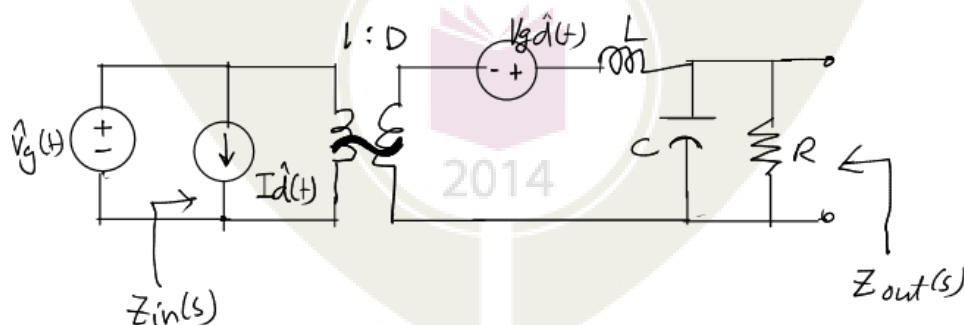

Figure 2.
- 15 (a) Figure 2 shows the small-signal model of a buck converter. Evaluate the output-to-control transfer function, $G_{vd}(s) = \frac{\hat{v}(s)}{\hat{d}(s)}$ from this equivalent circuit, by applying circuit manipulation techniques. Express the transfer functions in the standard form, where the quality factor Q , resonant frequency ω_0 , dc gain G_0 etc., are visible. (9)